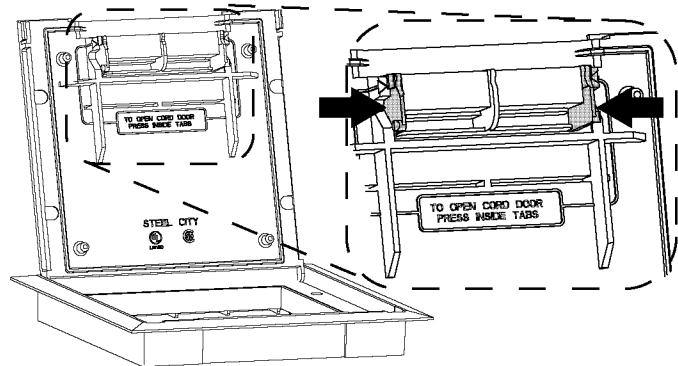

FIGURE 2
- 2) To raise Cord Door, use thumbs or fingers to press the two inside "locking" tabs and rotate the Door open. See note on underside of Lid (see Figure 2).